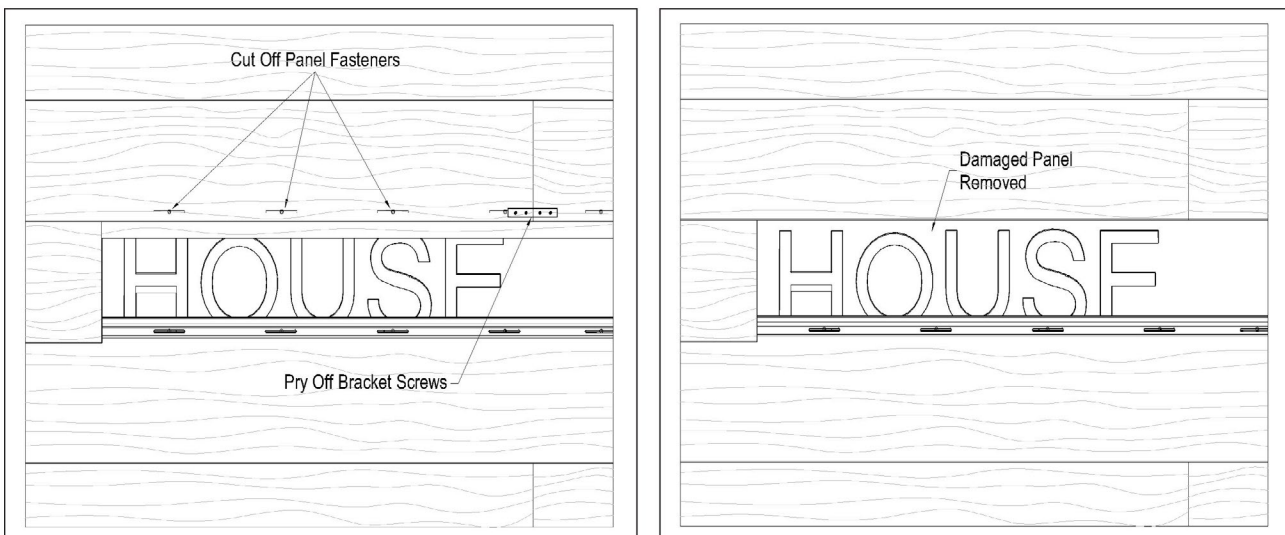

Figure 10
- Using a flathead screwdriver, pry loose the seam brackets connecting the damaged plank to the adjacent planks (Figure 10).
- Use a sawzall or oscillating tool to cut off the fasteners from the damaged plank and remove the top portion (Figure 10).